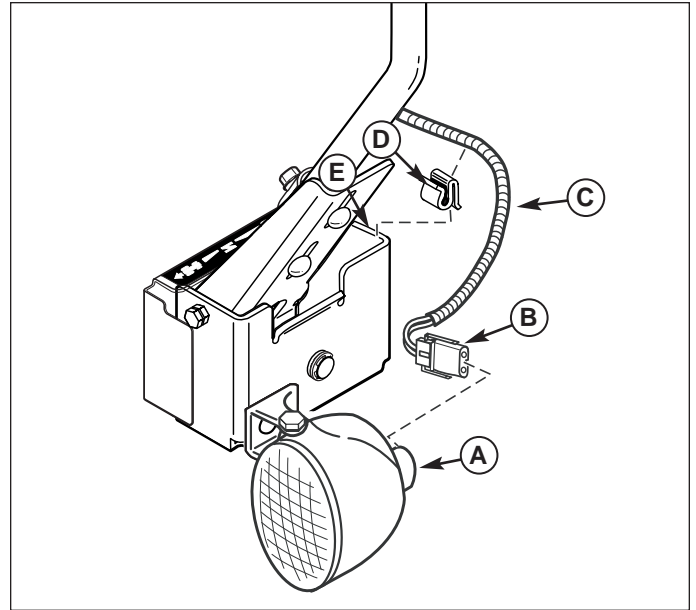

Figure 6. Light Connection
Note: The side of the headlight wire harness with the ribbed plastic cover (C, Figure 6) connects to the left side light. The side of the headlight wire harness with the braided cover goes to the right side light.
13. Connect harness plug (B, Figure 6) to the back of the headlight (A). Make sure the connector is fully seated into the light.
14. Slide wire clip (D) onto the back side of bracket (E) as shown. Push down to secure.
15. Slide headlight wire harness (C) into wire clip (D). Pull slack out of headlight wire harness (C) toward engine compartment. Route wires so they do not contact hot or moving components.